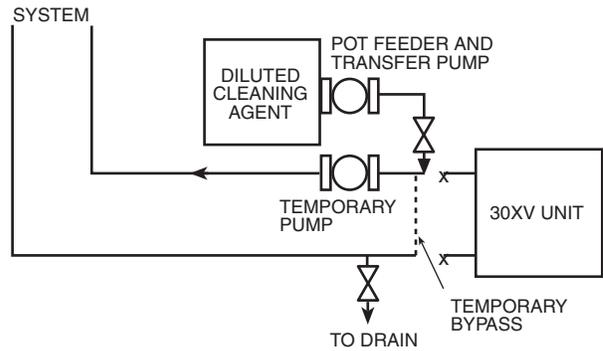

Fig. 34 — Typical Set Up for Cleaning Process
1. Install a temporary bypass around the chiller to avoid circulating dirty water and particulates into the chiller during the flush. Use a temporary circulating pump during the cleaning process. Also, be sure that there is capability to fully drain the system after cleaning. See Fig. 34.